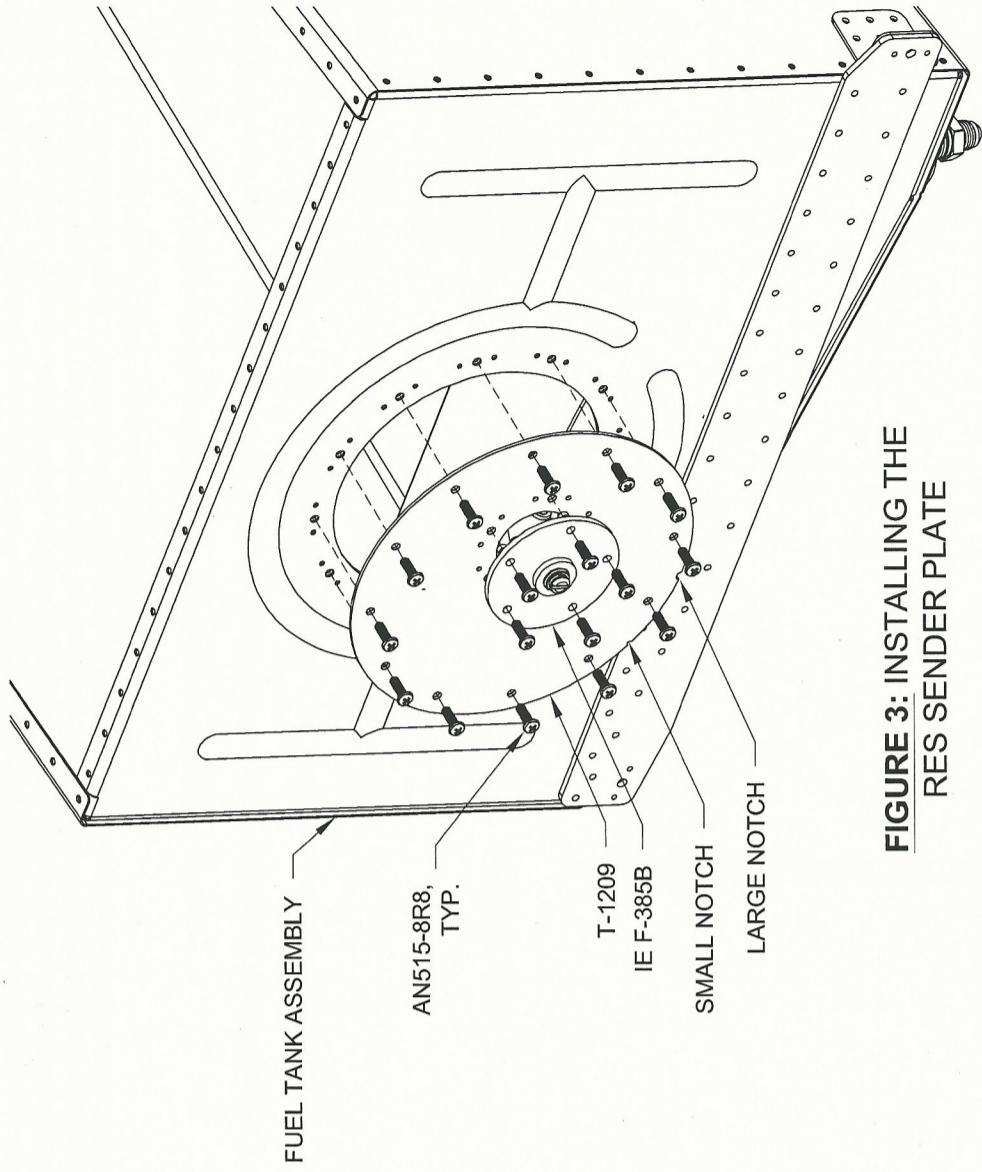
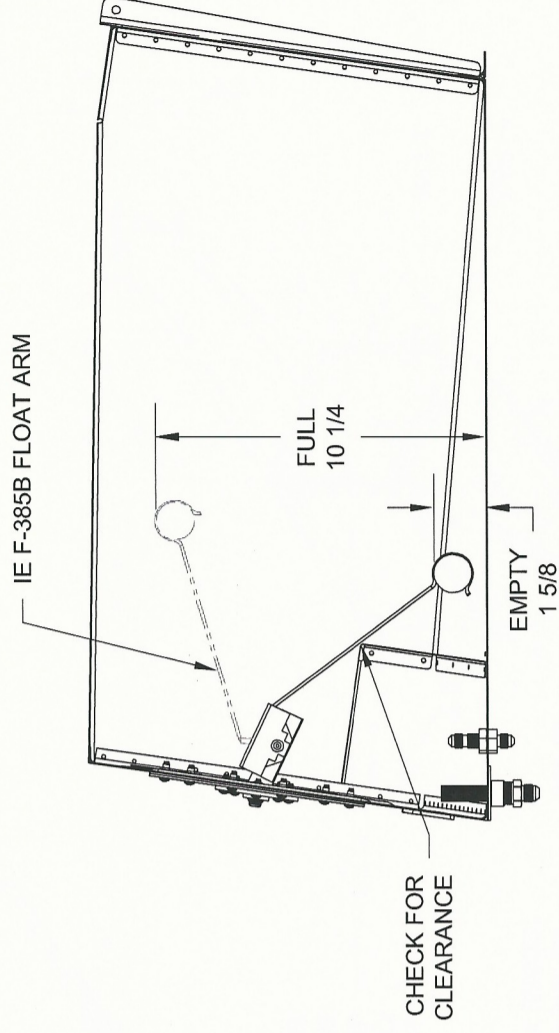

FIGURE 3: INSTALLING THE RES SENDER PLATE
FIGURE 4: CHECKING TRAVEL AND CLEARANCE
Step 4: Temporarily attach the T-1209 Res Sender Plate and IE F-385 Gasket and IE F-385B Fuel Sending Unit to the Fuel Tank Assembly as shown in Figure 3. Use the notches to orient the sender plate. The small notch will be offset outboard, of the large notch that will be centered at the bottom. Check for clearance between the T-1208 Baffle and the IE F-385B Float Arm. Check and adjust the float arm for proper travel. See Figure 4.